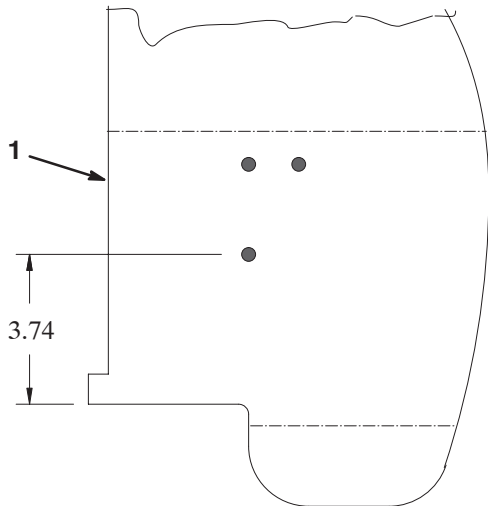

Figure 1
3. Locate the (3) holes in the right fender.
- If the rear hole is located 3.74 inches from the edge of the fender as shown in figure 1, proceed to to step 4.